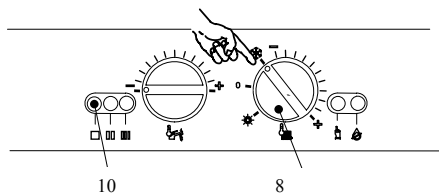

Fig. 2.4
- If the boiler is to be used for c.h. and d.h.w. position the function selector 8 as in Fig. 2.4. The appliance operation light 10 will flash every 2 seconds (operating boiler).